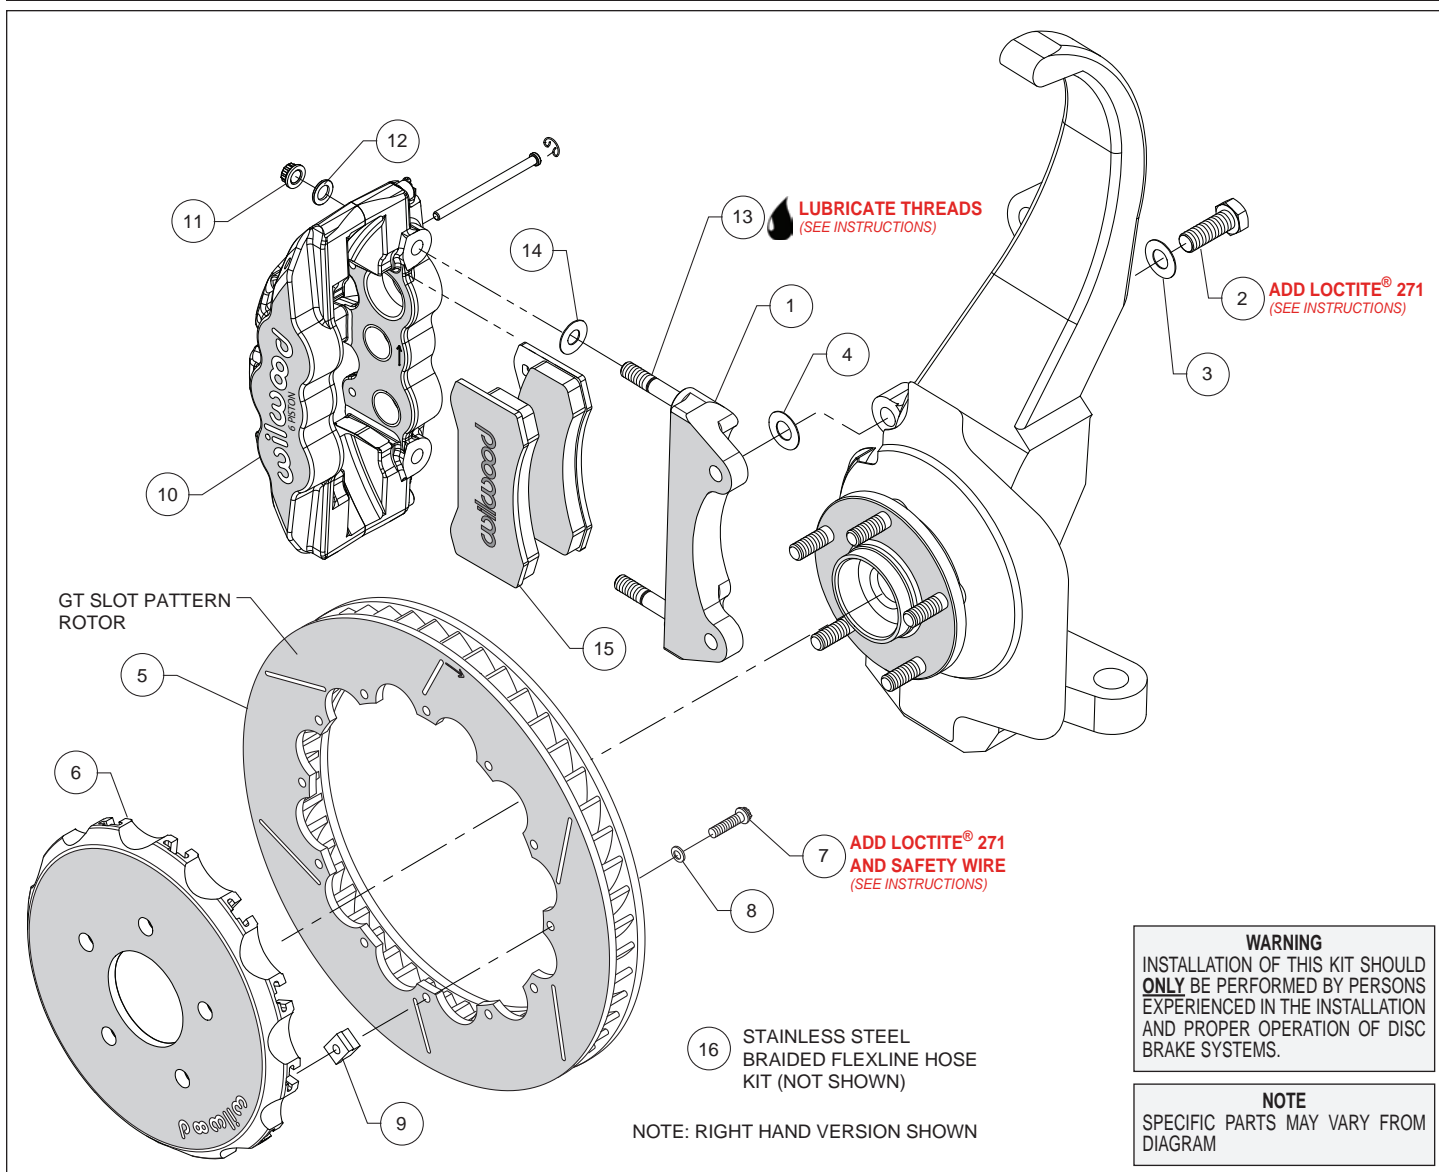
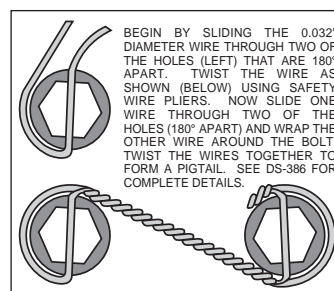

Figure 1. Typical Installation Configuration
Figure 4. Safety Wire Diagram
Assembly Instructions (numbers in parenthesis refer to the parts list and Figure 1 on the preceding pages):
- The caliper mount bracket (1) should initially be installed with clean, dry threads on the mounting bolts. Orient the bracket as shown in Figure 1 and Photo 1, and install using bolts (2) and washers (3). Initially place one .029 thick shim (4) on each bolt between the bracket and upright, Figure 1. Temporarily tighten the mounting bolts. **NOTE:** The bracket must fit squarely against the mounting points on the upright. Inspect for interference from casting irregularities, machining ridges, burrs, etc. Later, after the caliper alignment has been checked, the mount bolts will be secured using red *Loctite*[®] 271.
- Orient the rotor (5) and the hat (6) as shown in Figure 1 and Photo 2. Attach rotor to hat using bolts (7), washers (8), and t-nuts (9), Figure 1. Follow additional instructions included with the bolt kit. Using an alternating sequence, apply red *Loctite*[®] 271 to the threads, and torque to 120 **in-lbs**. Safety wire bolts using standard 0.032 inch diameter stainless steel safety wire as shown in Figure 4. Please refer to Wilwood's data sheet DS-386 (available at www.wilwood.com/Pdf/DataSheets/ds386.pdf) for complete safety wire installation instructions.
- NOTE:** This kit contains distinct right and left hand calipers that must be mounted in a specific direction, as described below. Lubricate the caliper mounting studs (13) with lightweight oil. Initially place one .030" thick shim (14) on each stud between the caliper and the bracket, as shown in Figure 1 and Photo 3. Mount the caliper (10) onto the bracket (1) using lock nuts (11) and washers (12), Figure 1. Ensure that the caliper is mounted so the largest pistons are at the rotor exit end of the caliper, in relation to the direction of rotor rotation. Temporarily tighten the lock nuts and view the rotor through the top opening of the caliper. The rotor should be centered in the caliper, Photo 4. If not, adjust by adding or subtracting shims (4) between the bracket and the upright. Always use the same amount of shims on each of the two mounting bolts. Once the caliper alignment is correct, remove the bracket mounting bolts (2) one at a time, apply red *Loctite*[®] 271 to the threads, and torque to 77 ft-lbs.
- Remove the two pad retaining pins from the caliper (10) by carefully popping out the pin retaining clips and sliding out the pins. Insert the brake pads (15) into the caliper from the bottom, Figure 1 and Photo 5. With the friction material facing the rotor, secure the brake pads in place with the pad retaining pins and clips, Photo 6. Reinstall the caliper onto the caliper mounting bracket and temporarily tighten the lock nuts (11). Check that the top of the brake pad is flush with the outside diameter of the rotor, Photo 7. If not, adjust by adding or subtracting shims (14) between the caliper and the bracket. After the caliper pad height is set, torque the caliper lock nuts (11) to 47 ft-lb.